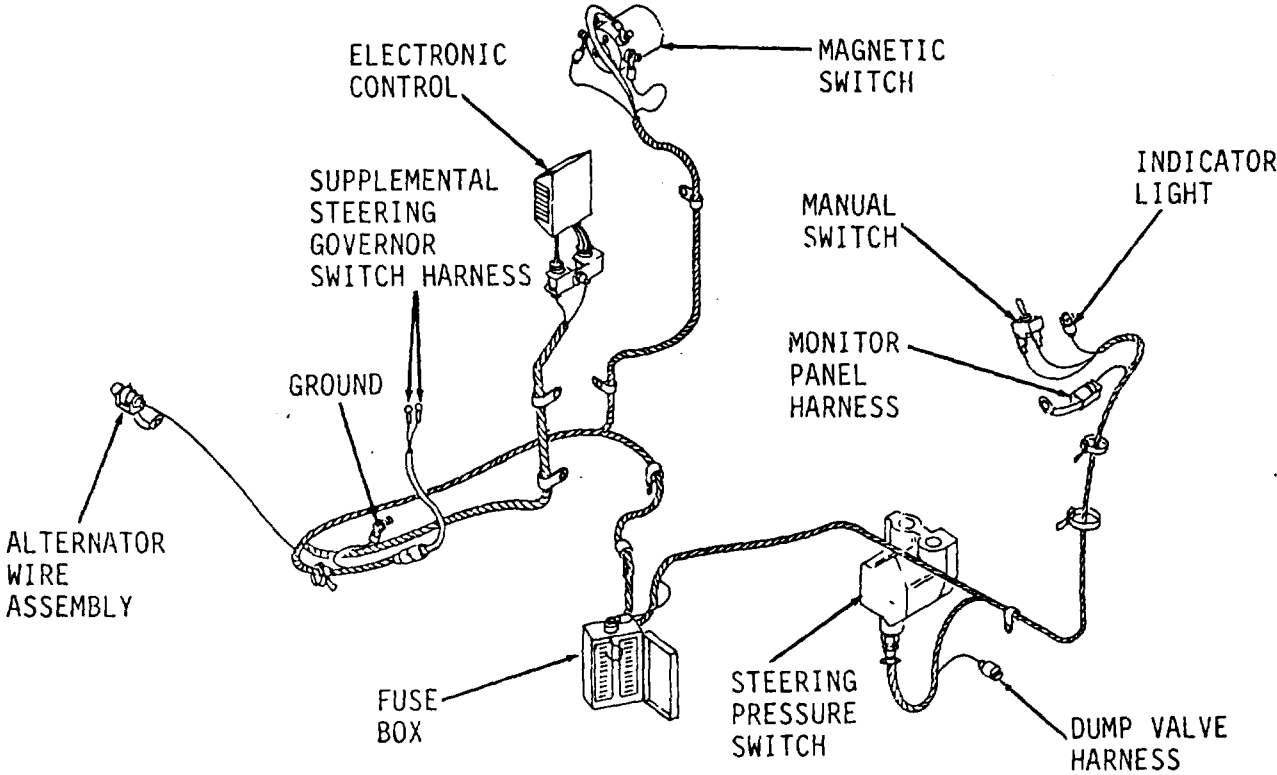

Figure 4-92.
- 1. Position supplemental steering main harness assembly (Figure 4-92) in vehicle.